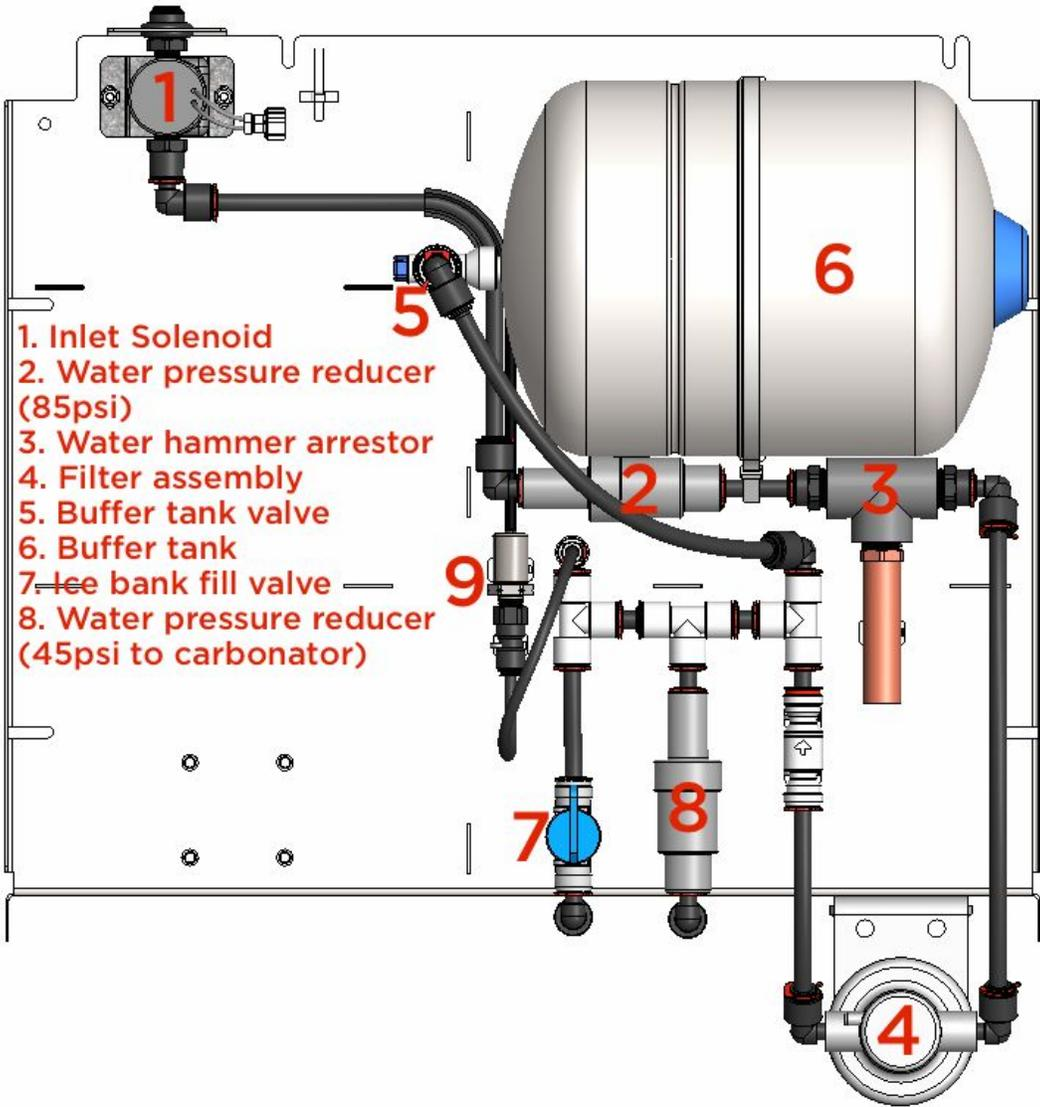

Figure 1: Internal Bevi water path with new buffer tank assembly
- During normal operation, the ice bank fill valve should be closed (see Figure 1, part #7).